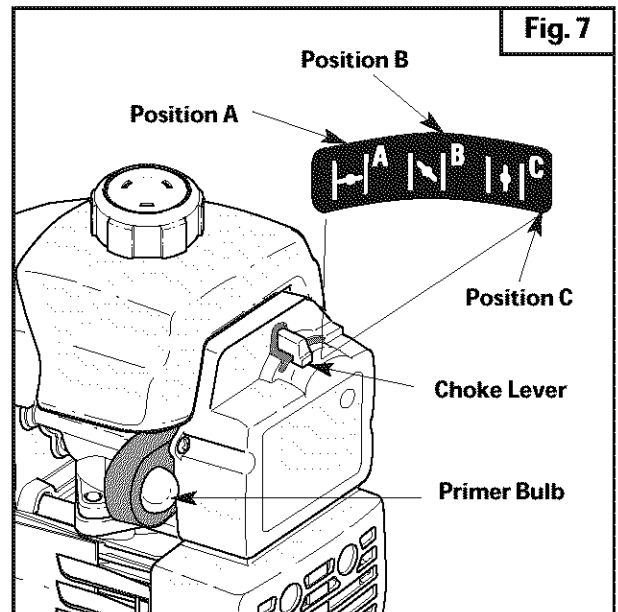

Fig. 7
3. Fully press and release the primer bulb 10 times, slowly. Some amount of **fuel should be visible in the primer bulb** and fuel lines (Fig. 7). If you can't see fuel in the bulb, press and release the bulb as many times as it takes before you can see fuel in it.
4. Place the choke lever in Position **A** (Fig. 7).